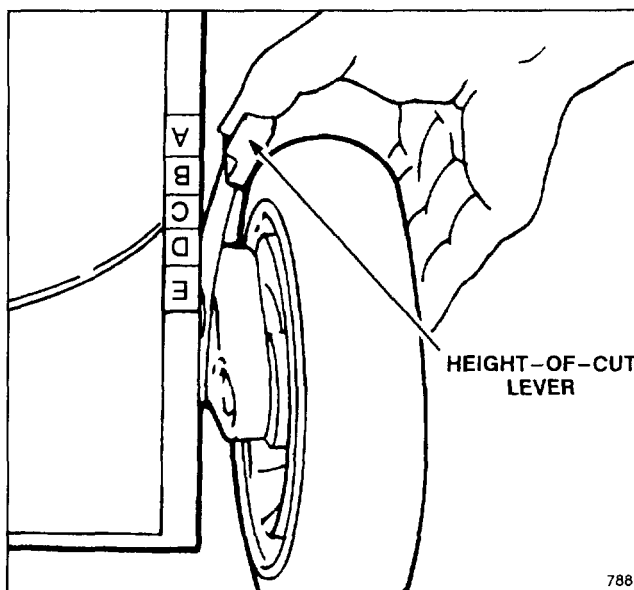

Figure 14
2. Put all four wheels in "E" height-of-cut position (Fig. 14).